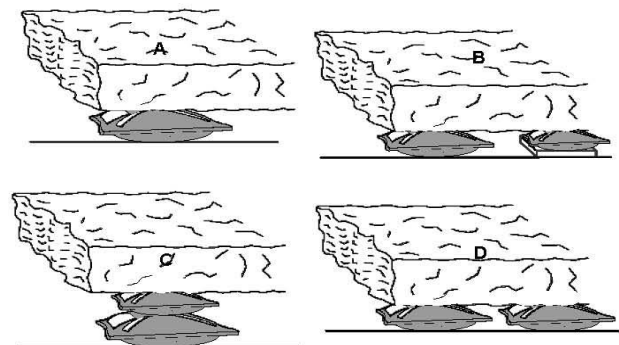

Figure 2-4. Lift bag Stacking and Tandem Combinations
f. Lifting capacity does not increase by stacking 2 lift bags one on top of the other; only the lifting height increases. Lifting capacity is controlled by the smaller bag capacity. Use lift bags, side-by-side, to additively increase capacity by inflating the lift bags simultaneously. (Figure 2-4)